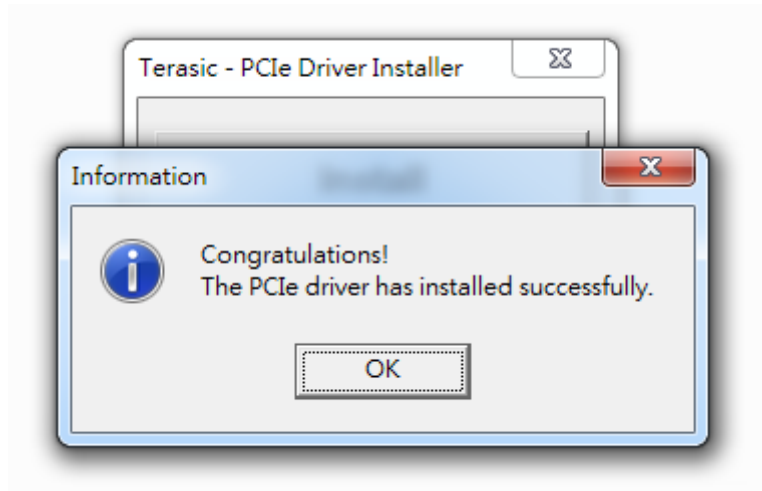

Figure 7-10 PCIe driver installed successfully
4. It takes several seconds to install the driver. When installation is complete, the following dialog window will popup shown in **Figure 7-10**. Click “OK” and then “Exit” to close the installation program.